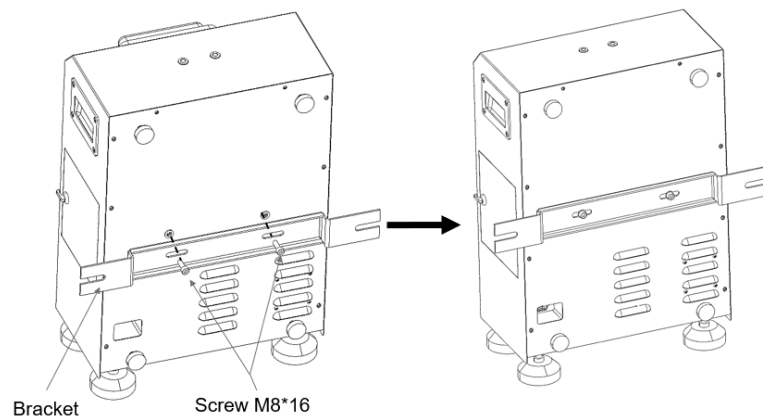

FIG.5
3. Install the bracket to the device as shown in FIG. 5